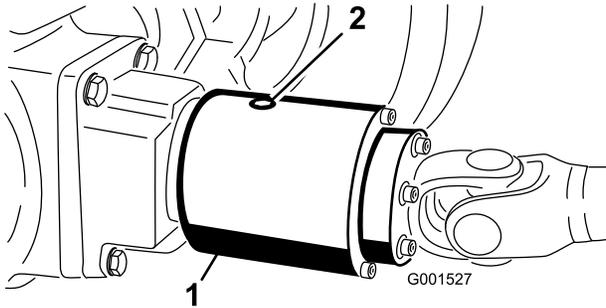

Figure 64
3. Rotate the clutch so that the check plug is positioned downward (Figure 64).